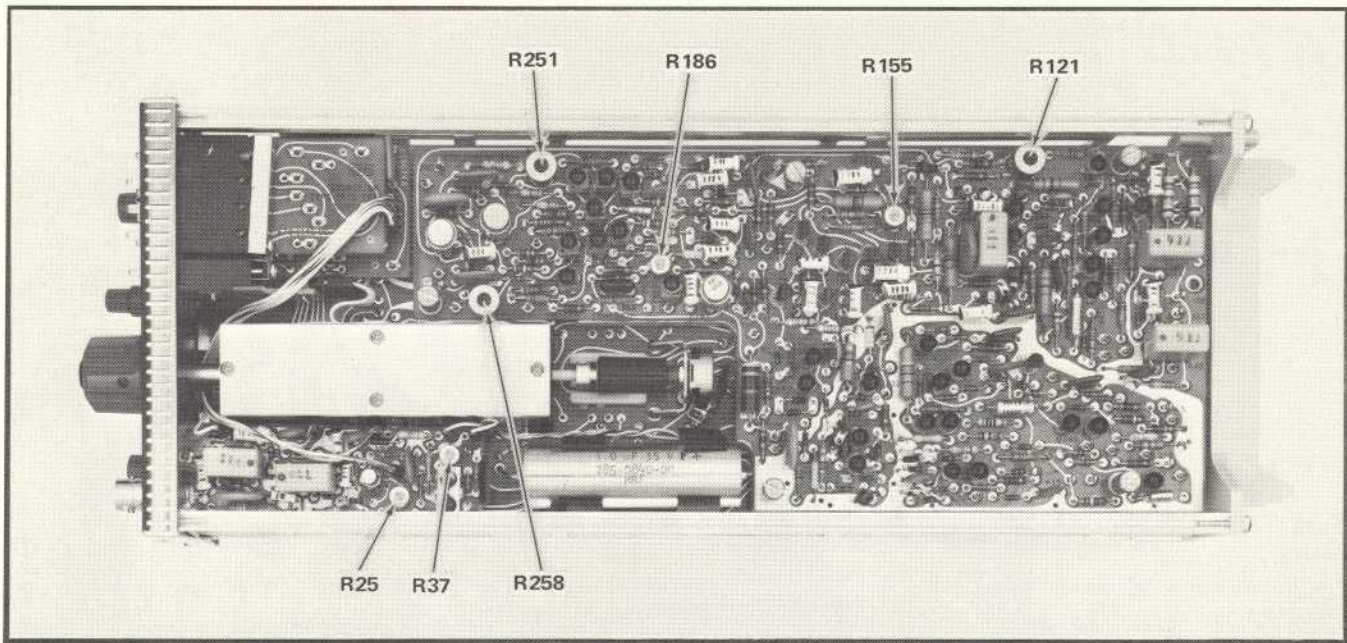

Fig. 5-2. Location of adjustments on Trigger Board.
c. **ADJUST—R251 for a stable display. See Fig. 5-2 for location of adjustment.**
b. **ADJUST—R258 for a stable display. Refer to Fig. 5-2 for location of adjustment.**
b. **ADJUST—R155 for a stable display. Refer to Fig. 5-2 for location of adjustment. Check for stable triggering over the full 360° range of the LEVEL/SLOPE control.**